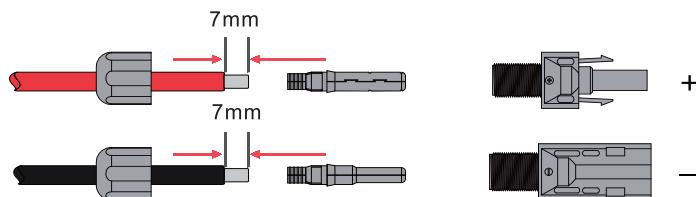

Figure 4.1-1 Pv cables and pv plugs
Step 1. Strip the insulation of the PV wire by 7mm, disassemble the cap nut of the connector, thread one PV wire through the cap nut of the connector. Repeat this operation with all the PV wires, paying special attention to the polarity of the connector, as shown in Figure 4.1-1.